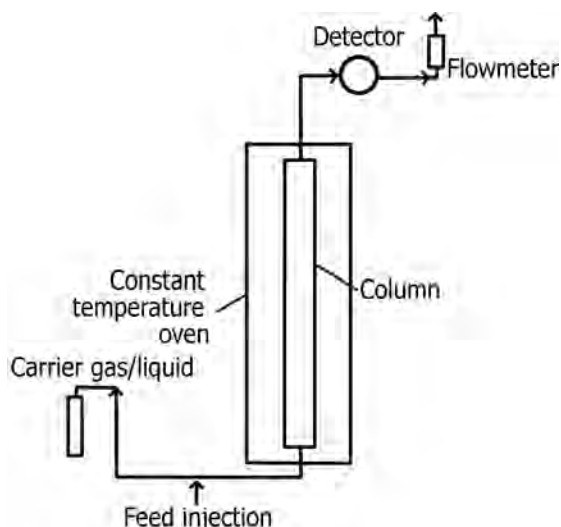

FIGURE 18.39 Chromatographic unit.
- Figure 18.39 illustrates the operation of a chromatographic unit.